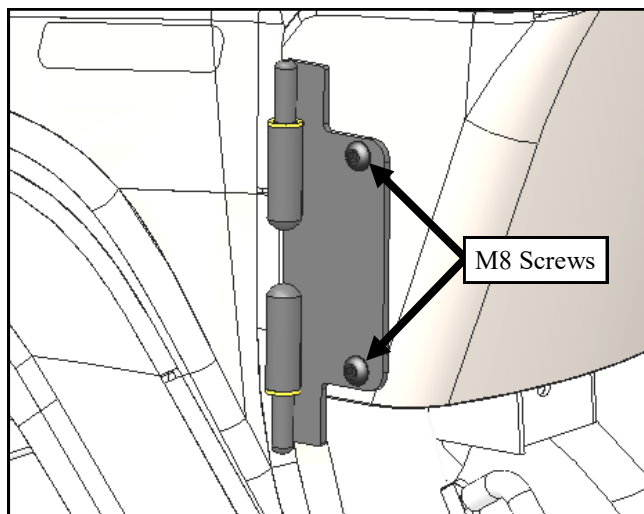

Fig. 1.7 (Hinge Attachment (Door Hidden))
- 1.7 Install front left door with the provided hardware. See **Fig 1.7**.